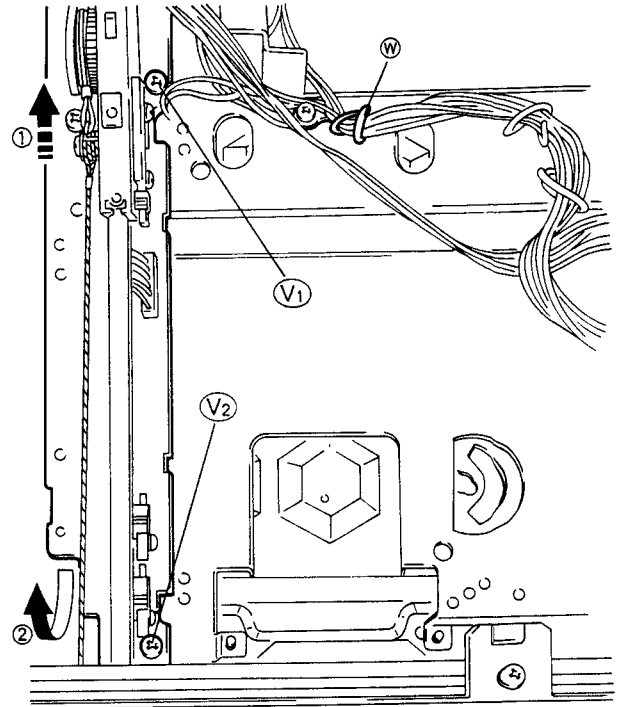

Fig. 2-7.
2. Remove the screws V₁ and V₂ fixing the loading mechanism assembly and the lead wire from cord stopper W. (Refer to Fig. 2-7.)